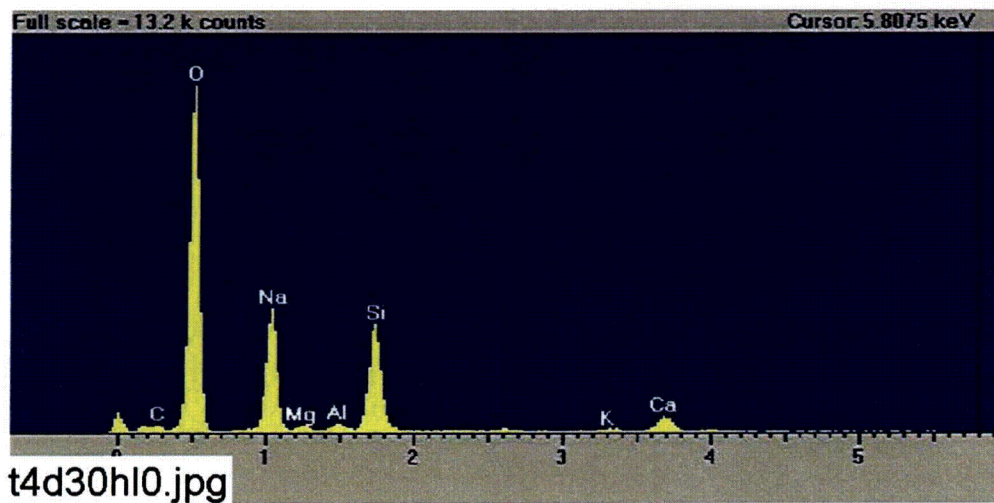

Figure C5-9. EDS counting spectrum for the spot of substance attached on fiberglass shown in Figure C5-8. (t4d30h10.jpg)
- Figure C5-9. EDS counting spectrum for the spot of substance attached on fiberglass shown in Figure C5-8. (t4d30hI0.jpg)..... C5-8